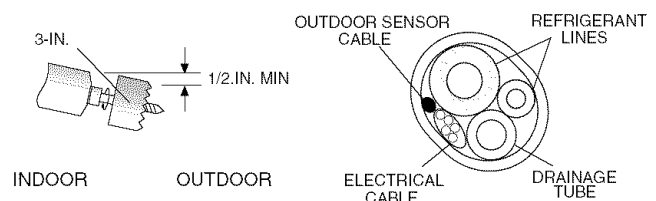

Fig. 5 — Drill Holes
DRILL A HOLE IN THE WALL FOR DRAINAGE AND INTER-UNIT CONNECTIONS — To make the connections between the indoor and outdoor units, a 3-in. hole should be drilled for the refrigerant lines, drainage hose and control cable passage through the wall as shown in Fig. 5.
5. Make sure the drainage hose is at the bottom side of the wall through-hole (see Fig. 5).